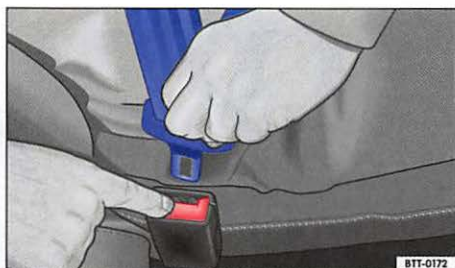

Fig. 51 Releasing the buckle tongue from the belt buckle.
- Press the red button on the buckle $\Rightarrow$ **fig. 51**. The buckle tongue is ejected.